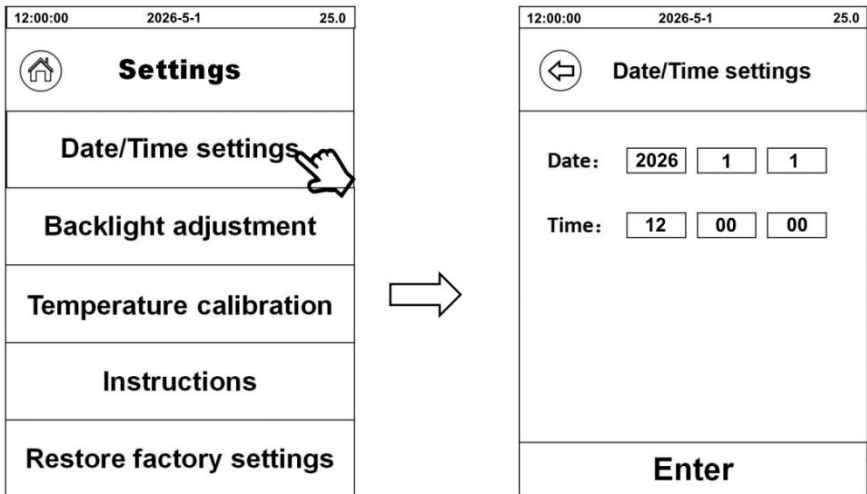

Fig. 17
- 1) Time and date settings: Click "Date/Time Settings" to directly adjust the values(Fig.17).